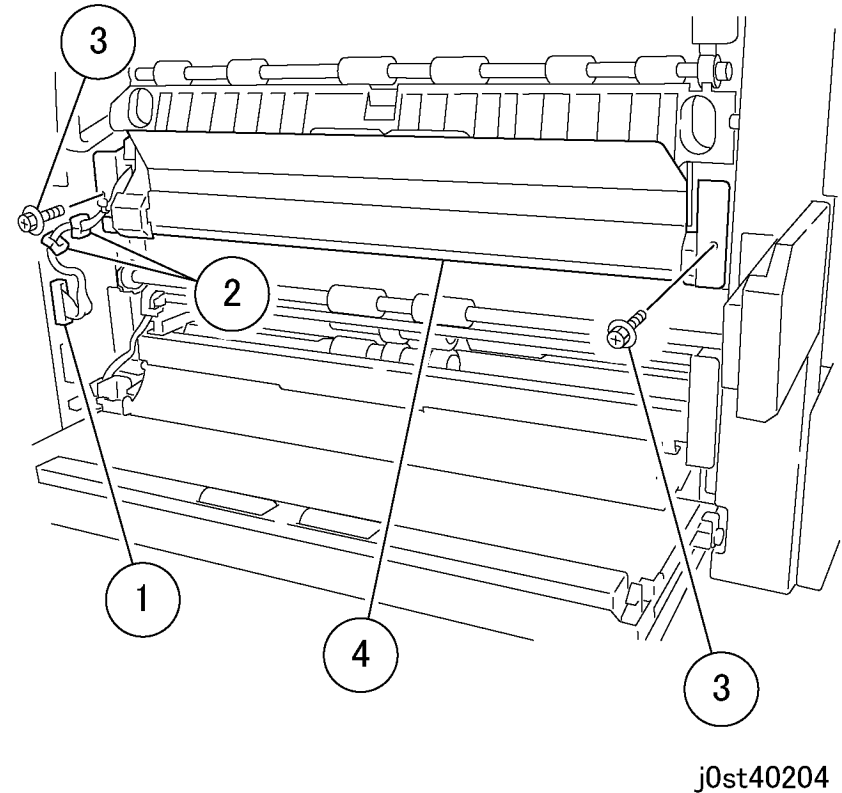

Figure 3 Removing the Feeder 1 Assembly (j0st40204)
7. Remove the Feeder 1 Assembly. (Figure 3)